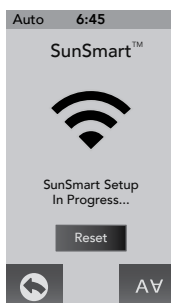

Figure 12.8b
2. While the system attempts to connect you will see the, "SunSmart Setup In Progress," Figure 12.8b. When the connection is done the display will read, "SunSmart Setup Successfully Connected."